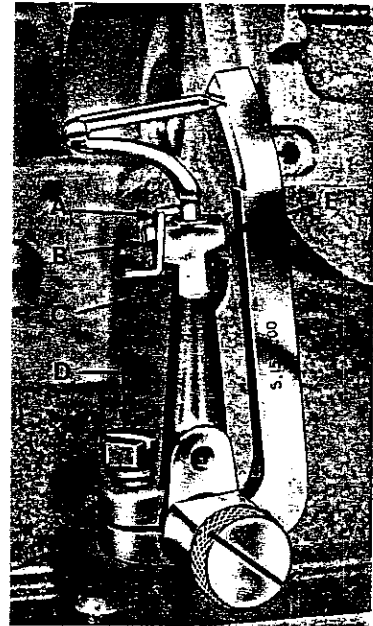

fig. 4
- S.1665.00 for all operations except operation 4 (fig.4)
4. Timing primary looper (fig. 4).
- Firmly tighten up screw E (fig. 4).